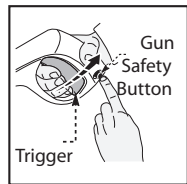

fig. 3
- Lock the trigger of the spray gun by aiming gun away from you and pushing the lock button from right to left. Squeeze trigger to test that it is locked. Always lock the trigger when power washer is not in use (fig. 3).